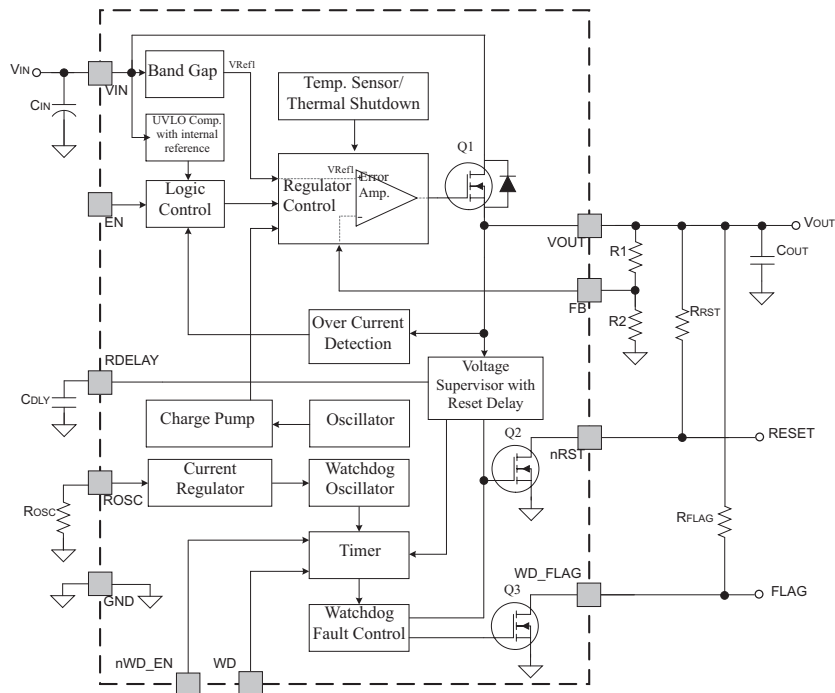

Figure 15. TPS7A6401-Q1 (Adjustable Output Voltage With Flag Output)
- R1, R2 = feedback resistors (see Figure 15)